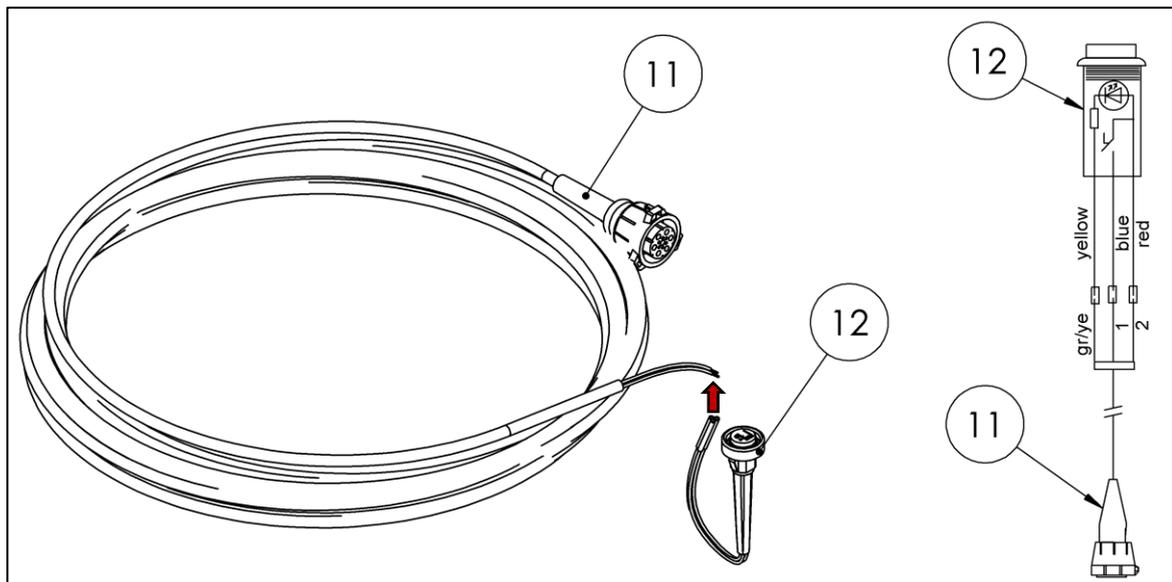

Fig. 53
- Drill a 16 mm dia. hole for the cabin switch (12) in a suitable location on the dashboard.
- Snap the cabin switch (12) into the hole.
- Route the cabin switch unit cable (11) from the lifting gear to the front.
- Connect the cabin switch unit as shown in Fig. 53.